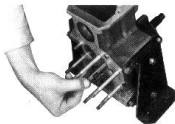

Fig. 9-12
18. Drive out the reduction shift fork spring pin from inside of the transfer case with the special tool spring pin puller (09922-85810) and withdraw the reduction shift shaft as shown in the Fig. 9-12. When removing the reduction shift shaft, NEVER turn it, or the gear shift locating ball will be rolled into the slot in the reduction shift shaft wedging the shaft in position.